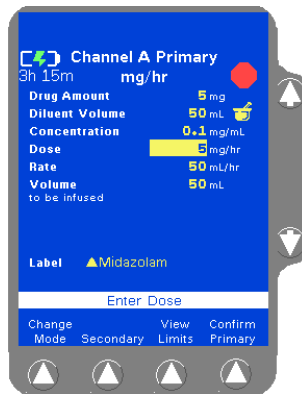

Figure 9
- For non-weight-based modes, the **Volume To Be Infused** field is filled with the standard Diluent Volume (Figure 9).